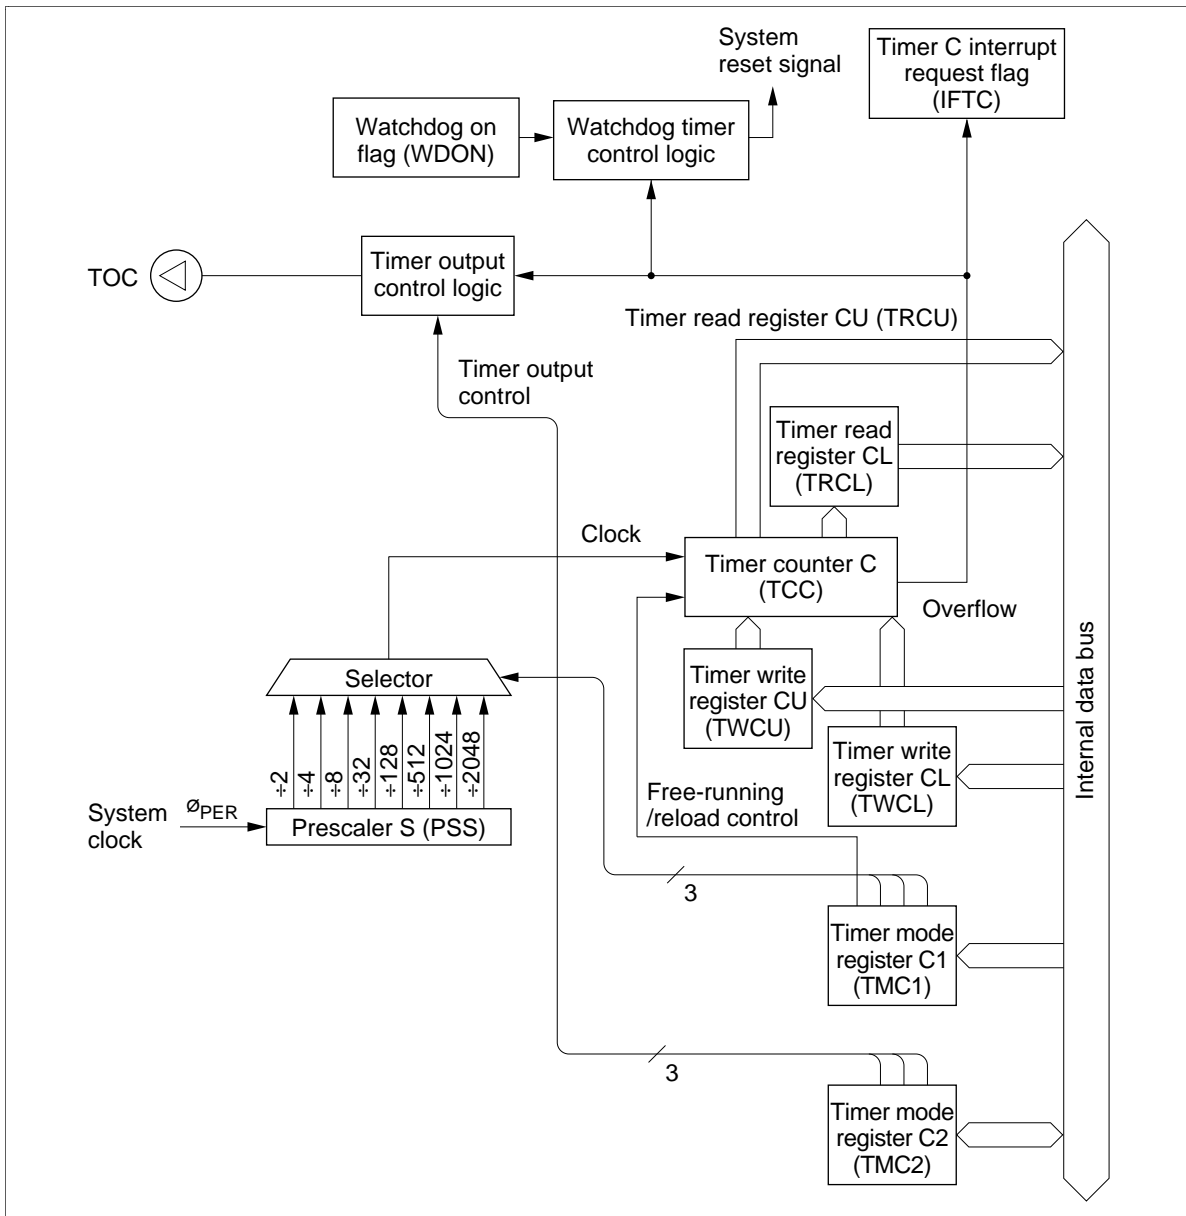

Figure 52 Block Diagram of Timer C
**Timer C Functions:** Timer C (figure 52) has the following functions.